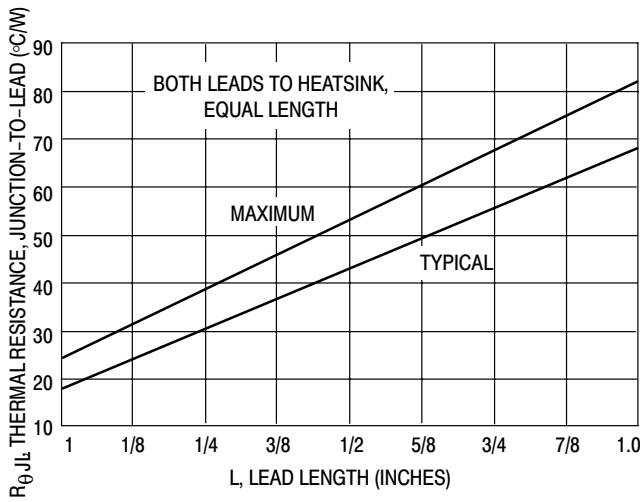

Figure 4. Steady-State Thermal Resistance
Step 3. Find $P_{F(AV)}$ from Figure 4. **Read $P_{F(AV)} = 0.5 \text{ W}$